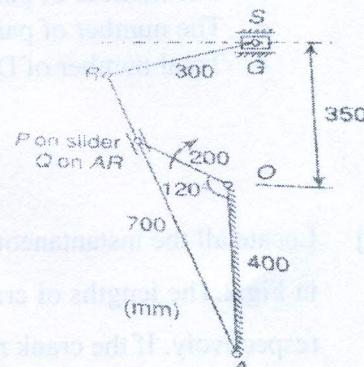

Fig. 4
- [B] Fig.4 shows the link mechanism of a quick-return mechanism of the slotted lever type, the various dimensions of which are: $OA = 400 \text{ mm}$, $OP = 200 \text{ mm}$, $AR = 700 \text{ mm}$, $RS = 300 \text{ mm}$. For the configuration shown, determine acceleration of the cutting tool at S and the angular acceleration of the link RS . The crank OP rotates